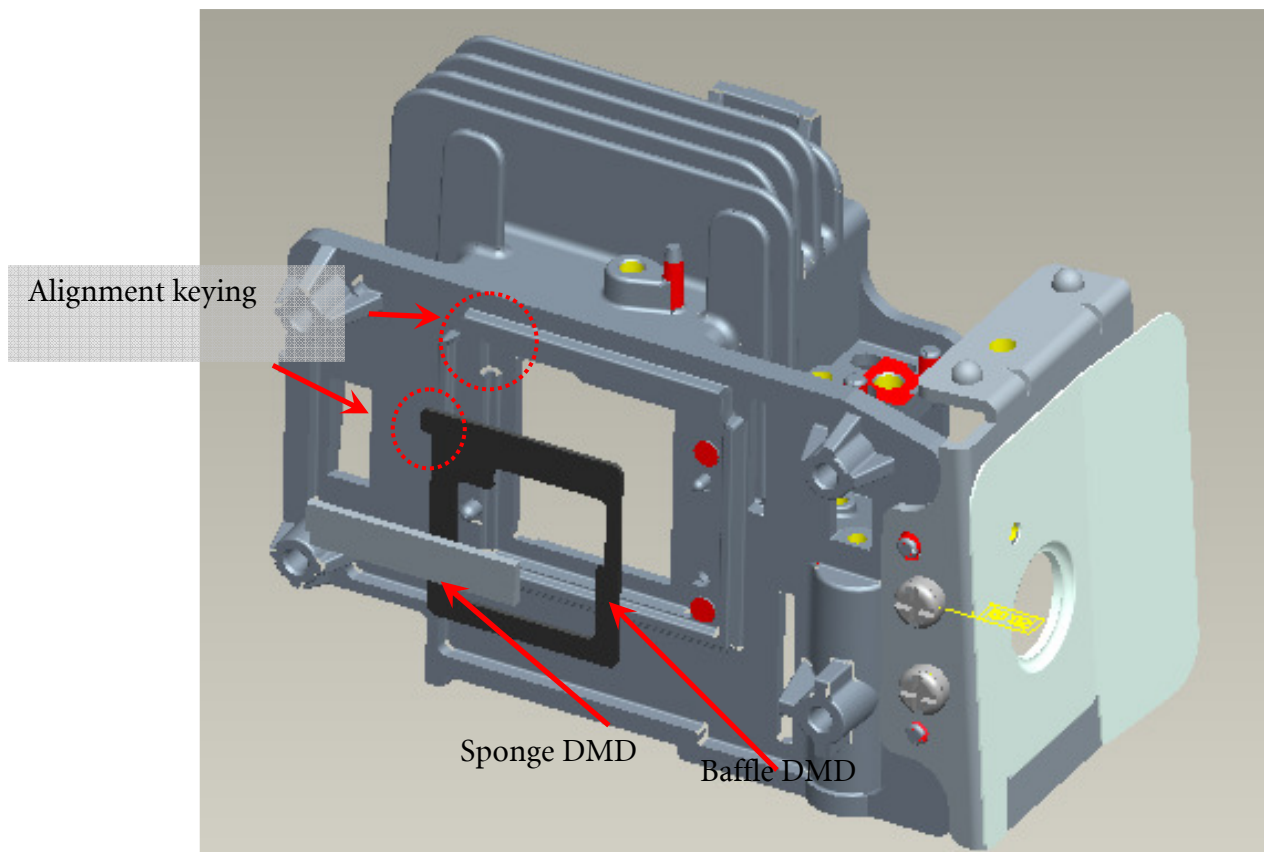

Fig.7-1
7.1 Assemble “Baffle DMD” to “HSG DMD” (Fig.7-1).
7.2 Assemble “Sponge DMD” to “HSG DMD” (Fig.7-1).